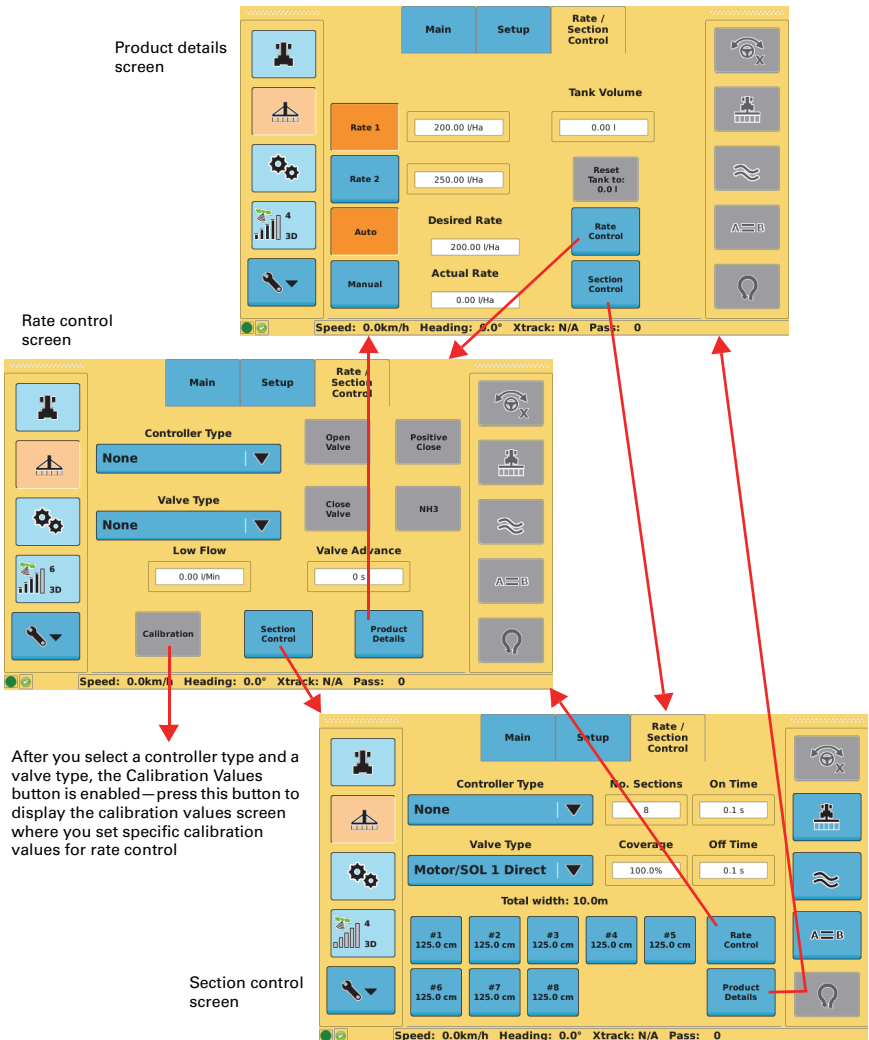

Figure 7-2: Navigating the rate and section control screens
1. Press the **Implement** screen button then press the **Rate / Section Control** tab at the top of the screen. The Rate/Section Control product details screen appears (see Figure 7-2 on page 131).